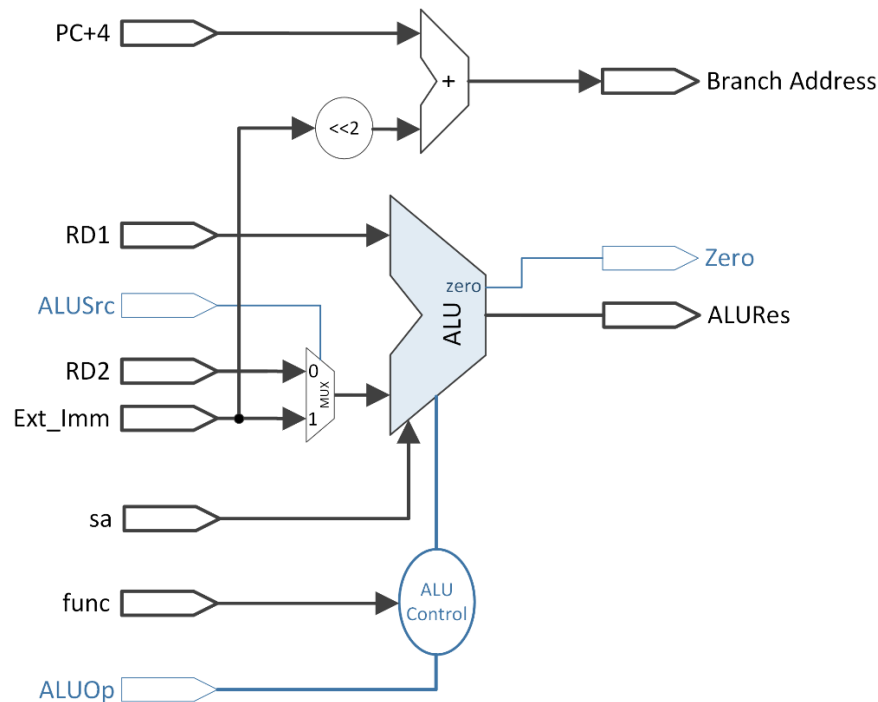

Figure 7-5: Instruction Execute Data-Path for MIPS 32
The data-path of the Instruction Execute Unit is presented in Figure 7-5.
Taking into account the instruction execution data-path from Figure 7-5 design a new component (new entity) in the “test\_env” project for your own single-cycle MIPS 16. All the data fields are 16-bits wide.
The Ex entity will contain the hardware components described in Figure 7-5 that will not be implemented with other components (use behavioral VHDL description)
**Attention!** Be careful when transforming the data fields from Figure 7-5 (MIPS 32) into your own single-cycle MIPS 16 implementation.